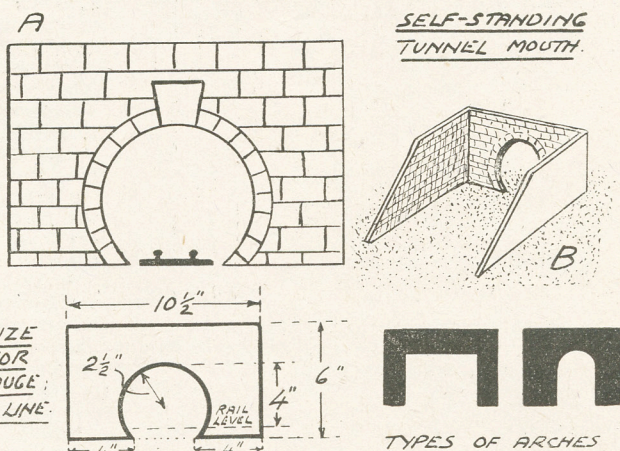

Fig. 2—Constructional details of various types
Tunnel mouths are extremely easy to make. Wood can be used, but stiff card will do quite well. The mouth may be the complete inverted arch, but the three-quarters circle, as indicated in (A) Fig. 2, is very effective. If of cardboard, then a white type should be used upon
corners are cut off each piece to a distance of $\frac{1}{2}$ in. and one piece has a $\frac{1}{4}$ in. hole drilled $\frac{1}{2}$ in. from one end to correspond with the hole in the block (Fig. 2). The other piece of wood does not have a hole but the hinged end is tapered off, as shown (Fig. 3). The reason for this will be seen when it comes to assembling.